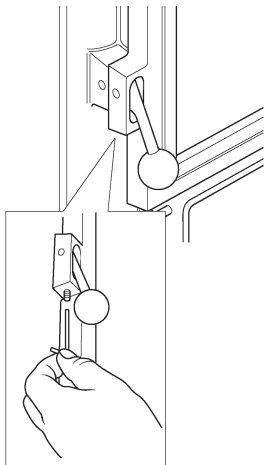

Figure 2
1. The door is secured with a locking screw. Remove the screw with the allen key supplied (See figure 2). Open the door.